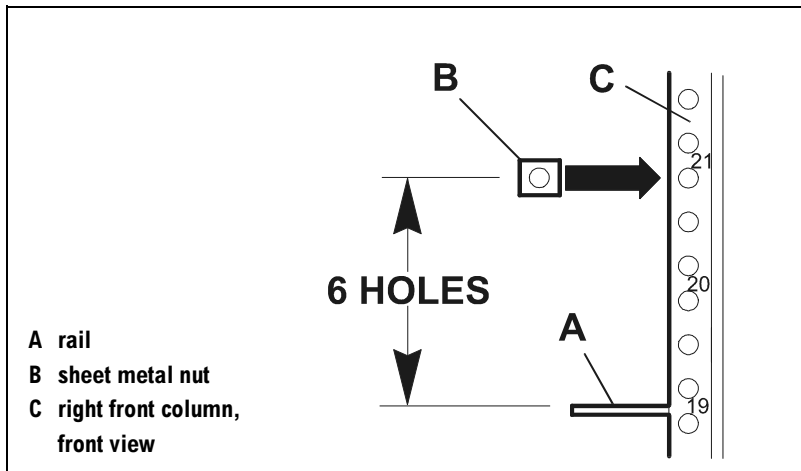

Figure 22 Rack Front Preparation: Unit Rail Position
- If the bottom of the rail (A in Figure 22) is at the EIA Unit number, count six holes up from the rail ledge and install the sheet metal nut.